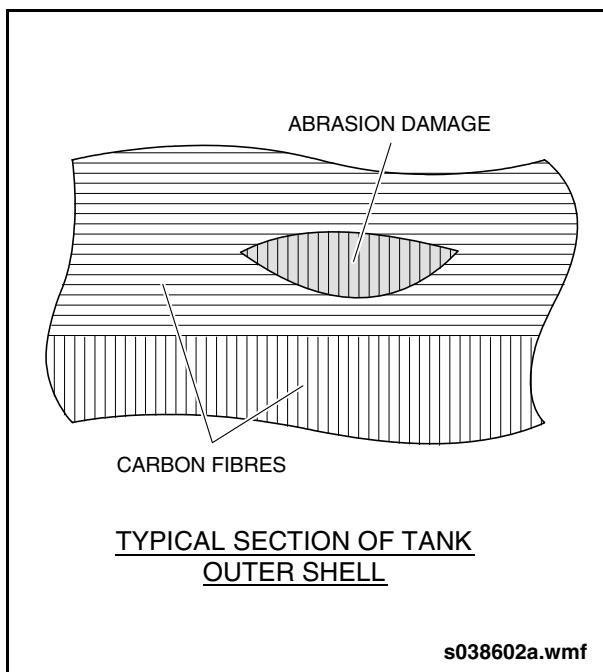
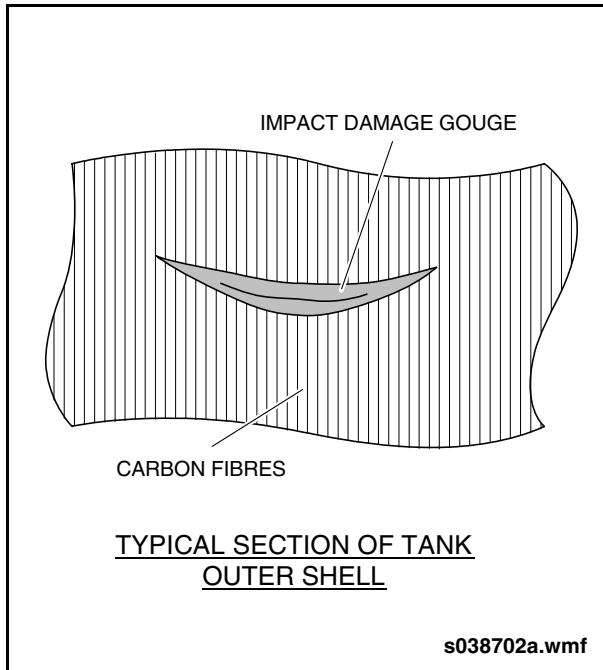

Fig. 7-24: Lvl.3-Abrasion Damage (condemn)
Fig. 7-25: Lvl.3-Impact Damage Gouge (condemn)
4. The container has Level 3 damage and is condemned, removed from service and destroyed. See "Fig. 7-24: Lvl.3-Abrasion Damage (condemn)" on page 68. See "Fig. 7-25: Lvl.3-Impact Damage Gouge (condemn)" on page 68.